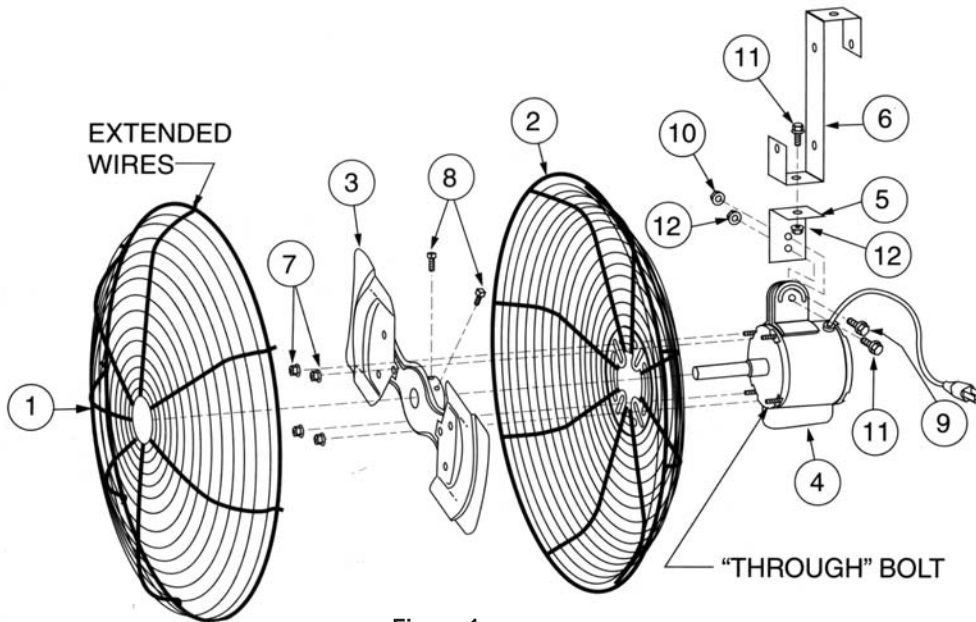
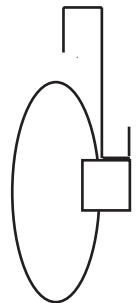

Figure 1
Figure 2A
2. As shown in Figure 1, mount the rear guard to the motor using the motor bolts. Install and tighten the 4 #8-32 nuts to the bolts until the motor is firmly seated to the guard.
3. Slide the propeller onto the motor shaft with the hub side of the prop facing the motor as shown in Figure 1. Do not tighten the screws. To center the propeller between the front and rear guards, temporarily place the front guard in its proper position. Center the propeller between the front and rear guards. Remove the front guard and securely tighten the two screws.
5. The "S" hanging bracket top has approximately a 1 5/8" (4.127 cm) opening on one end and a 2" (5.08 cm) on the other. Determine which of these best fits the structure to which the fan will be mounted. To the opposite end, attach the bracket bottom using one of the 3/8"-16 X 3/4" bolts and nut as shown in Figure 1. Do not tighten.
6. As shown in Figure 1, fasten the hanging bracket assembly to the motor using the 1/4" - 20 X 3/4" bolt and nut in the top slot. Use a 3/8" - 16 X 3/4" bolt and nut in the bottom hole. Do not tighten. Note: If mounted as in Figure 2B, the fan will hang at a slight downward angle rather than perpendicular as in Figure 2A.